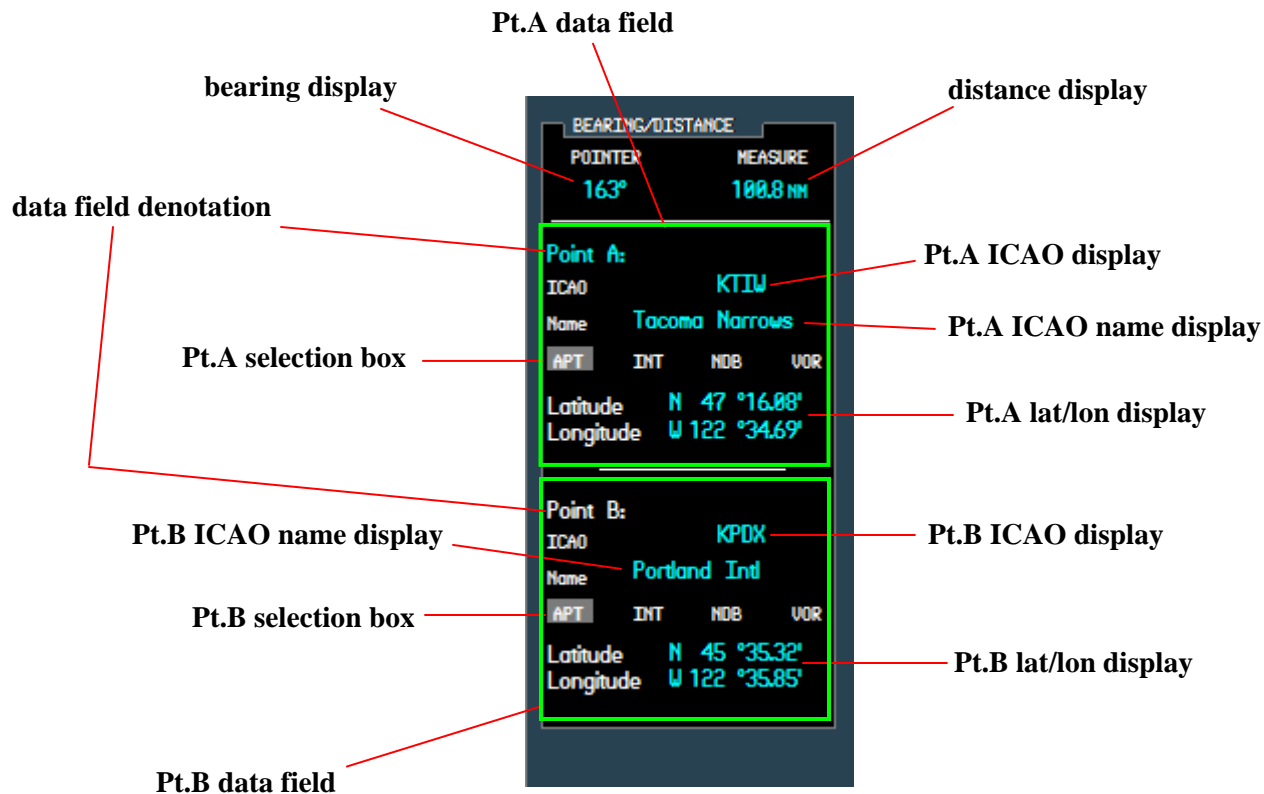

Figure 5.13
The Measure Bearing/Distance Page is the third and last page of the Navigation Map Page Group (Figure 5.13). This page allows the user to determine the distance and bearing from any point on the earth to any other point on the earth. (This page is not the same as in the real world Garmin G1000, but was designed to replace the MAP PANNING feature where determining the bearing and distance between any 2 points is performed using ‘joystick panning’.) Data can be entered as an ICAO for 1) airports, 2) intersections, 3) NDBs, 4) VORs, or entered directly as 5) latitude/longitude. All combinations between points are possible (ex., VOR<-->APT, VOR<-->VOR, etc.). A ‘point A <--> point B’ softkey on the MAP 1st softkey panel (A-B) toggles between the 2 points for data entry. There are 6 data entry fields for each point:
3. click on the ENTER button to open the Measure Bearing/Distance Window (Figure 5.13).